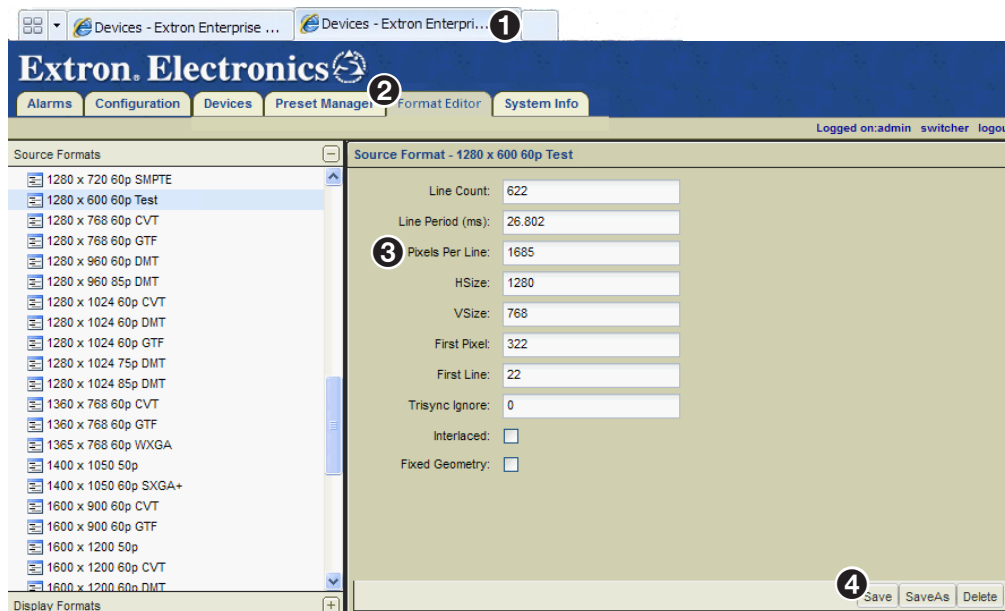

Figure 139. Enter Values Into the Source Format Editor Page
31. Click the **right device tab** (see figure 139, ❶).
32. Select the **Format Editor** (❷).
33. In the **Source Format** panel, adjust the **Pixels Per Line** field (❸) to size the image correctly.